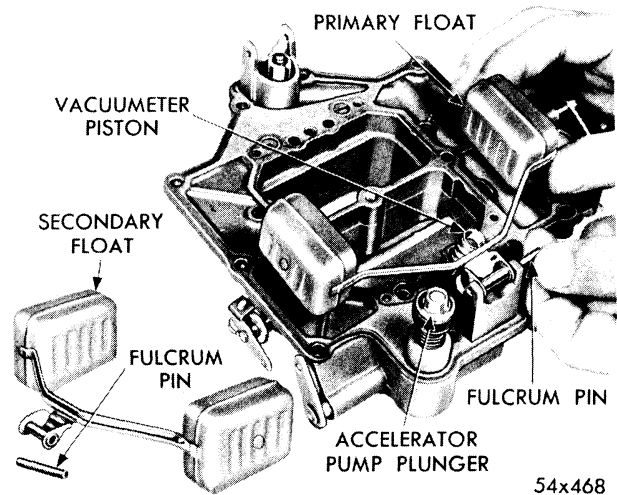

Fig. 10—Removing or Installing Primary and Secondary Floats
- (2) With a suitable tool, push out the primary float fulcrum pin. Lift primary float up and away from air horn, as shown in Figure 10.